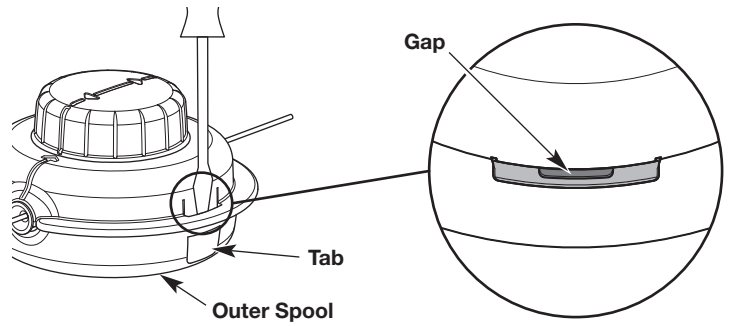

Fig. 4
- a. Firmly press a tab on the cutting head with your thumb (Fig. 4). **DO NOT** press the tab with a screwdriver or other object.
- b. Continue pressing the tab. Insert a flat-head screwdriver into the gap between the outer spool and tab (Fig. 4).